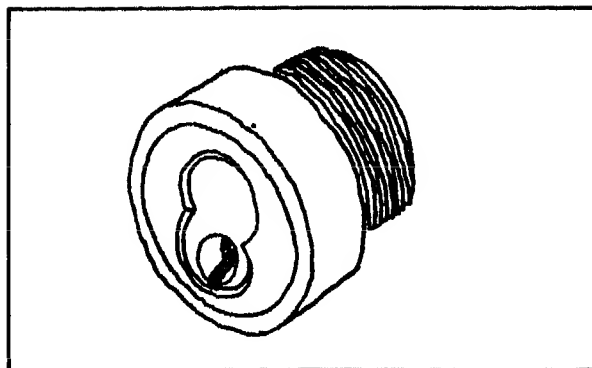

Fig. 24 Spinner ring.
**Spinner ring:** A hardened steel ring that forms a collar around the cylinder and which spins freely around the cylinder when gripped (see Fig. 24).
On double doors, the active leaf should be equipped with a mortise-type lock. The inactive leaf should be equipped with flush bolts with at least a  $\frac{3}{4}$ -inch throw at head and foot (see Fig. 24).